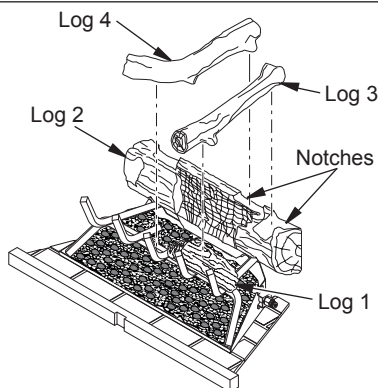
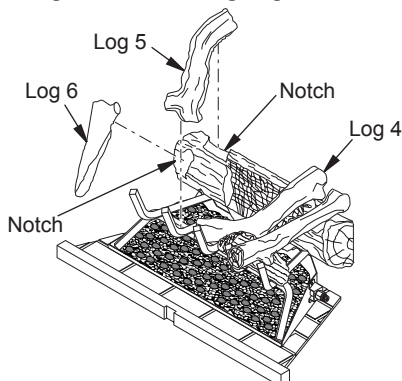
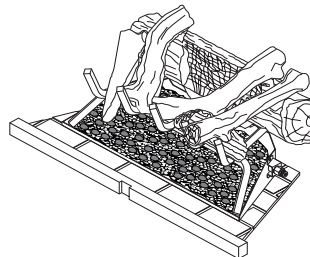

Figure 24 - Installing Logs 3 and 4
Figure 25 - Installing Logs 5 and 6
Figure 26 - Logs Installed for M36, M36EP, VM36 and VM36P Models
3. Place log 3 into notch on log 2, resting front end on top of log 1 (see Figure 24).
4. Place upper end of log 4 into notch on log 2 as shown in Figure 24. Rest lower end of log 4 onto middle grate finger as shown in Figure 25.
5. Place upper end of log 5 into notch on left of log 2 (see Figure 25). Rest lower end of log 5 on grate as shown in Figure 26.
6. Insert lower end of log 6 between first two grate fingers as shown in Figure 26 and position upper end of log 6 into notched area on front of log 2 as shown in Figure 26.